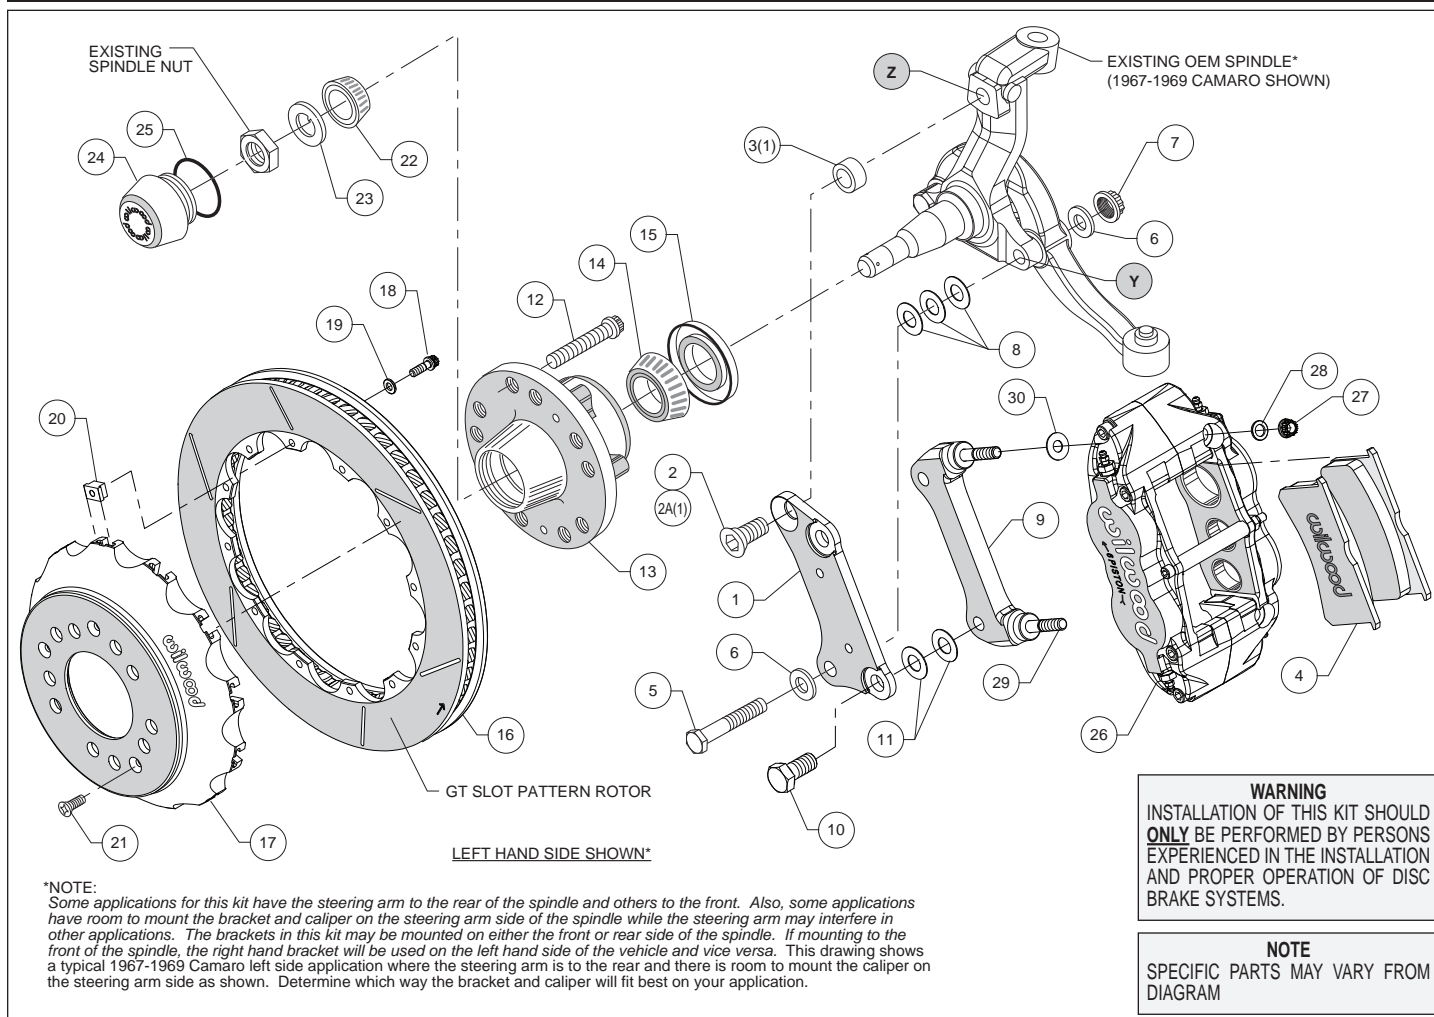
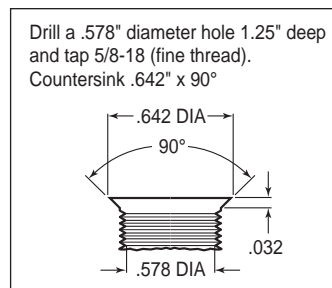
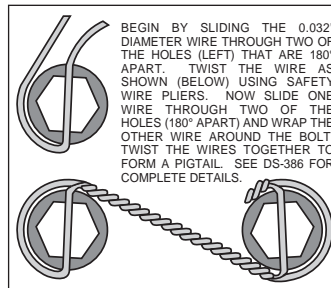

Figure 1. Typical Installation Configuration
Figure 3. Drill and Tap Detail
Figure 4. Safety Wire Diagram
Assembly Instructions (numbers in parenthesis refer to the parts list on the preceding page, and Figure 1):
•**NOTE:** Some applications for this kit have the steering arm to the rear of the spindle and others to the front. Also, some applications have room to mount the bracket and caliper on the steering arm side of the spindle while the steering arm may interfere in other applications. The brackets in this kit may be mounted on either the front or rear side of the spindle. If mounting to the front of the spindle, the right hand bracket will be used on the left hand side of the vehicle and vice versa. Figure 1 shows a typical 1967-1969 Camaro left side application where the steering arm is to the rear and there is room to mount the caliper on the steering arm side as shown. Determine which way the bracket and caliper will fit best on your application.
•**NOTE:** Some spindles in this year range may require the following modifications (reference Figure 1 and Figure 3): Top anchor pin hole (Z) must be drilled and tapped to the dimensions as outlined in Figure 3. The lower bolt hole (Y) in the spindle used to mount the new caliper bracket, and the mating steering arm hole, must be enlarged to .50" by drilling. It is recommended these modifications be performed by a qualified machinist.
•Install wheel studs (12) into the hub (13), Photo 1. Torque to 77 ft-lb. **NOTE:** There are two five lug patterns in the hub (5 x 4.50 and 5 x 4.75). Ensure the correct hub stud pattern is being used to fit the wheel application.
•Pack the large inner bearing cone (14) with high temperature disc brake bearing grease (available from your local auto parts store) and install into the backside of the hub (13).
•Install the grease seal (15) by pressing into the backside of the hub (13), Photo 2.
•Orient the rotor (16) and the hat (17) as shown in Figure 1 and Photo 3. Attach rotor to hat using bolts (18), washers (19), and t-nuts (20). Follow additional instructions included with the bolt kit. Using an alternating sequence, apply red *Loctite*® 271 to the threads, and torque to 120 in-lbs. Safety wire bolts using standard 0.032 inch diameter stainless steel safety wire as shown in Figure 4. Please refer to Wilwood's data sheet DS-386 (available at www.wilwood.com/Pdf/DataSheets/ds386.pdf) for complete safety wire installation instructions.
•**Disc Brake Spindle Application Only:** Follow the instructions below, but instead use bolt (2A), and spacer (3) in the upper bolt hole location, Figure 1.
•Orient the flat bracket (1) as shown in Figure 1 and Photo 4, and install using bottom bolt (5), washers (6), and nut (7), Figure 1. Initially place three .032" thick shims (8) between the bracket and spindle. Install the upper bolt (2 or 2A). Temporarily tighten bolts. **NOTE:** The bracket must fit squarely against the mounting surfaces on the spindle. Inspect for interference from casting irregularities, machining ridges, burrs, etc. Temporarily install the new hub, hat and rotor assembly. Check that the bracket is aligned parallel to the rotor, Photo 5. If not, adjust by adding or subtracting shims (8) on the lower bolt between the bracket and spindle, Figure 1. Once the bracket alignment is correct, remove the upper bolt (2 or 2A), apply red *Loctite*® 271 to the bolt threads, and torque to 140 ft-lb. Torque the lower lock nut to 65 ft-lb.
•The radial mount caliper bracket (9) should initially be installed with clean, dry threads on the mounting bolts. Orient the bracket as shown in Figure 1 and Photo 6, and install using bolts (10). Initially place two .029 thick shims (11) on each bolt between the two brackets, Figure 1. Temporarily tighten the mounting bolts. Later, after the caliper alignment has been checked, the mount bolts will be secured using red *Loctite*® 271.
•Pack the small outer bearing cone (22) with high temperature disc brake bearing grease and install into hub (13). Final install the hub assembly onto the spindle. Secure using spindle washer (23) and OEM spindle nut, Photo 7. Adjust bearings per OEM specifications. Install saved OEM nut lock (if any) and a new cotter pin (not included).
•Screw dust cap (24) into hub (13). Friction created by the o-ring (25) on the dust cap keeps it from unscrewing. **NOTE:** The O.D. of the existing OEM spindle washer may be larger than the I.D. of the dust cap not allowing it to seat against the hub face. Therefore, use the spindle washer (23) supplied with the kit instead of the OEM washer.
•Final install the rotor (16 and 17) assembly onto the hub (13), taking care to align the small countersunk holes in the hat with the small threaded holes in the hub. **NOTE:** The hat must fit flush against the hub face or excessive rotor run out may result. Install three flat head screws (21) through the small holes in the hat (17), Photo 8, and torque to 85 in-lb.
•**NOTE:** This kit contains distinct right and left hand calipers that must be mounted in a specific direction, as described below. Lubricate the caliper mounting studs (29) with lightweight oil. Initially place one .035" thick shim (30) on each stud between the caliper and the bracket, as shown in Figure 1 and Photo 9. Mount the caliper (26) onto the bracket (9) using lock nuts (27) and washers (28), Figure 1. Ensure that the caliper is mounted so the largest pistons are at the rotor exit end of the caliper, in relation to the direction of rotor rotation. Temporarily tighten the lock nuts. The rotor should be centered in the caliper, Photo 10. If not, adjust by adding or subtracting shims (11) between the flat bracket (1) and the caliper bracket (9). Always use the same amount of shims on